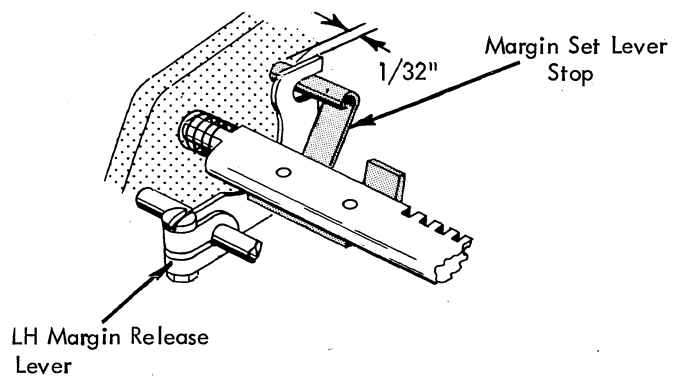

FIGURE 178. Margin Rack (Late)
1. Laterally so that $1/32$ " of the rolled pin on the margin release lever (Fig. 178).
- b. Late - Position the margin set lever stop (Fig. 178) left or right on the margin rack so that it will clear the margin stop by $.001$ " to $.010$ " when the margin stop pin is fully seated in the extreme left hand tooth of the margin rack.